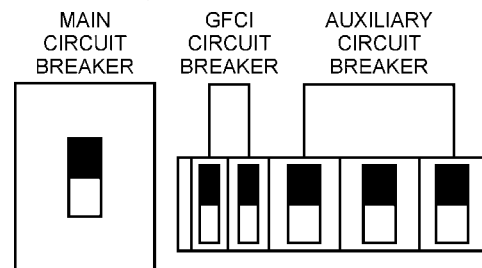

Figure 48. Main, Aux. and GFCI Circuit Breakers (ON)
11. Place the **main, GFCI, and aux.** circuit breakers in the **ON** position (Figure 48).